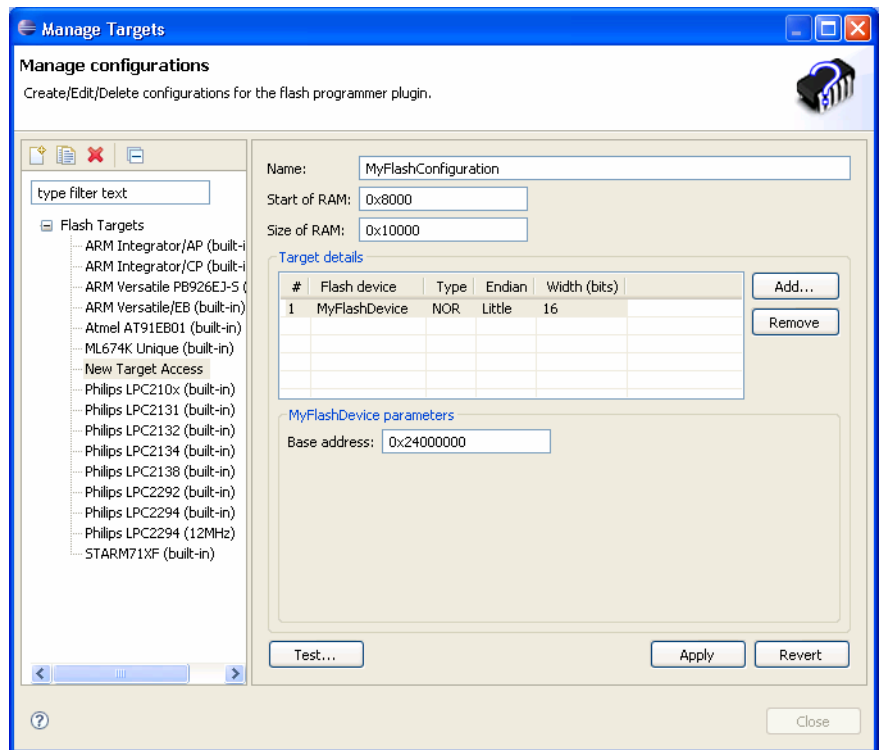

Figure 7 Creating a flash configuration
6. Enter any parameters needed by your flash algorithm. All flash algorithms have a **Base address** parameter, which is the base address of your flash device in memory (see Figure 7 on page 15).